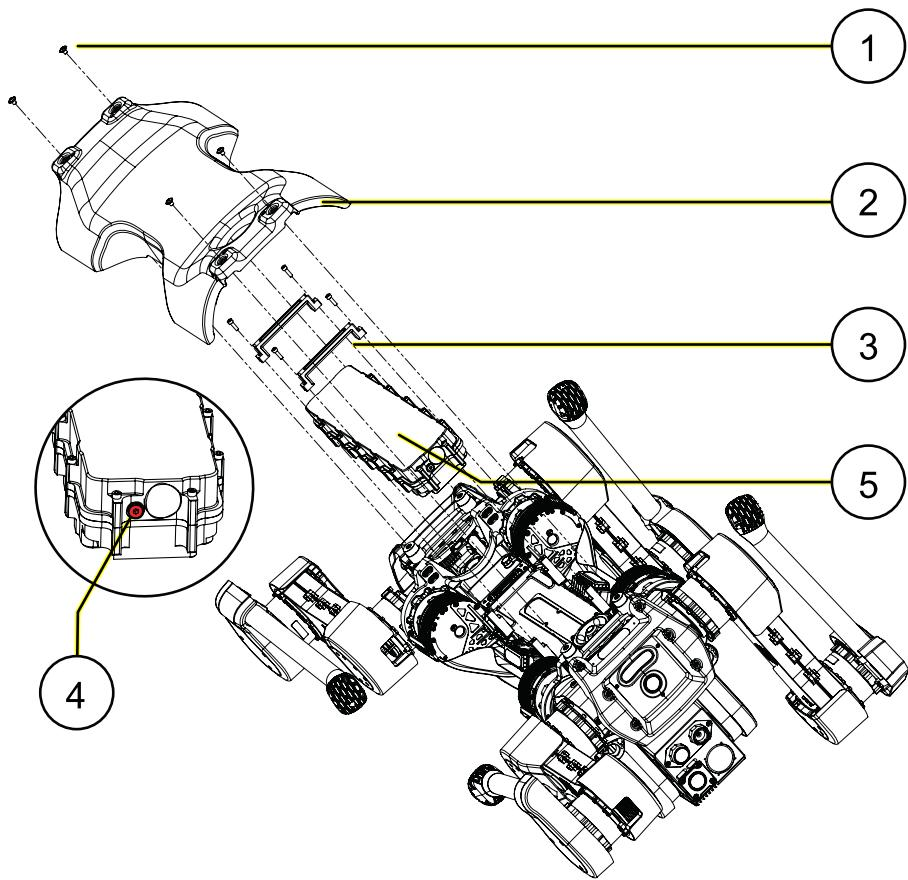

Figure 37 – Underside of Robot showing bottom shell and battery assembly
3. Remove the four M6 screws [item 1] attaching the bottom shell [item 2] to the Robot body [see Figure 37].
4. Remove the bottom shell [item 2] from the Robot.
5. Remove the four M5 screws attaching the two battery brackets [item 3] to the Robot body.
6. Remove the two battery brackets [item 3].
7. Tighten the M8 valve plug on the end of the Robot battery to 2 Nm [item 4].
8. Insert the battery [item 5] so that the pins of the battery contact the socket on the Robot body.
9. Attach the battery using the two battery brackets [item 3] and the four M5 screws.